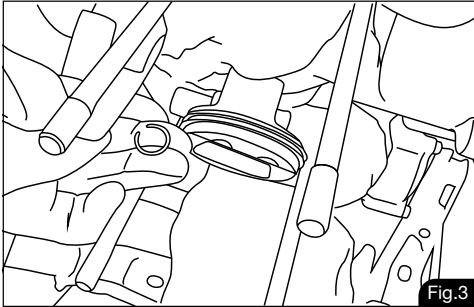

Fig.3
Note (Fig.3): When installing the piston circlip, Make sure the clip end is not aligned with the piston cut-out to prevent it from coming loose during operation.
4. Fit the piston to the connecting rod, then install the piston pin and circlip(s). (Fig. 3)
Catatan (Fig.3): Saat memasang klip piston, pastikan ujung klip tidak sejajar dengan cutout pada piston untuk menghindari kemungkinan lepas saat mesin beroperasi.